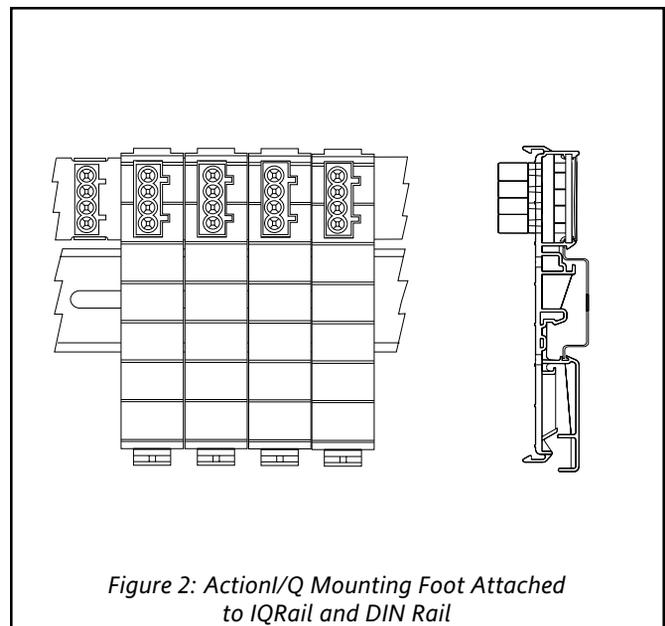

Figure 2: ActionI/Q Mounting Foot Attached to I/Q Rail and DIN Rail
2. Once the DIN rail is firmly in place, snap the foot and I/Q Rail assembly to the DIN mounting rail, starting from the center unit on the rail and working outward. When all the feet are mounted to the DIN rail the I/Q Rail should be held firmly in place parallel with the DIN mounting rail (see Figure 2).